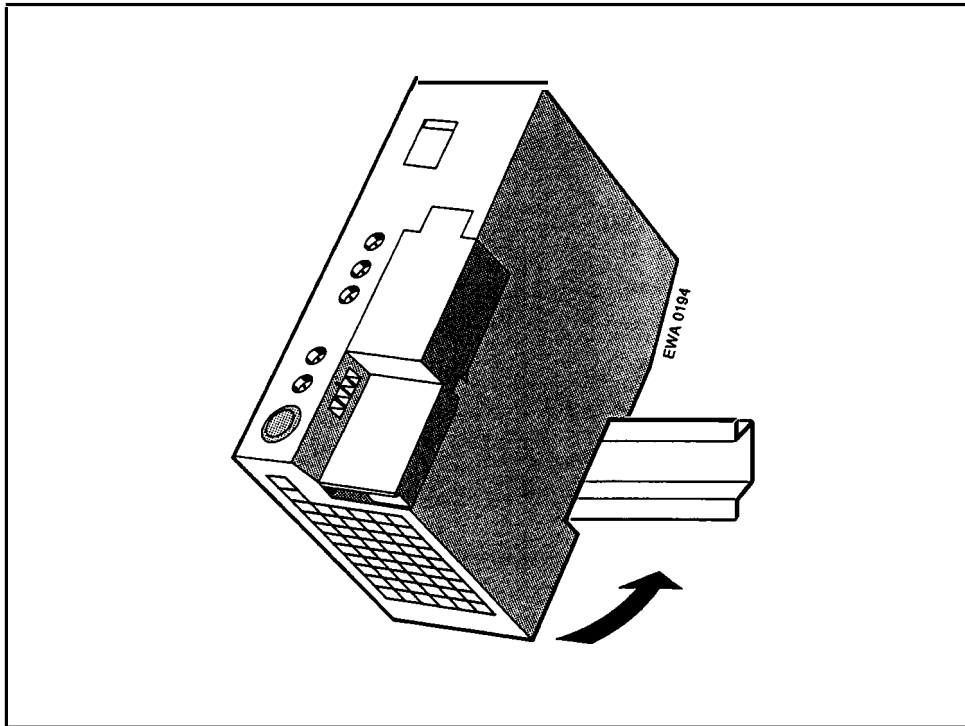

Figure 3-1 Mounting the PS 931 Power Supply Module
- Swing it down in the direction of the arrow (+ Figure 3-1).
- Swing it down in the direction of the arrow (Figure 3-1).